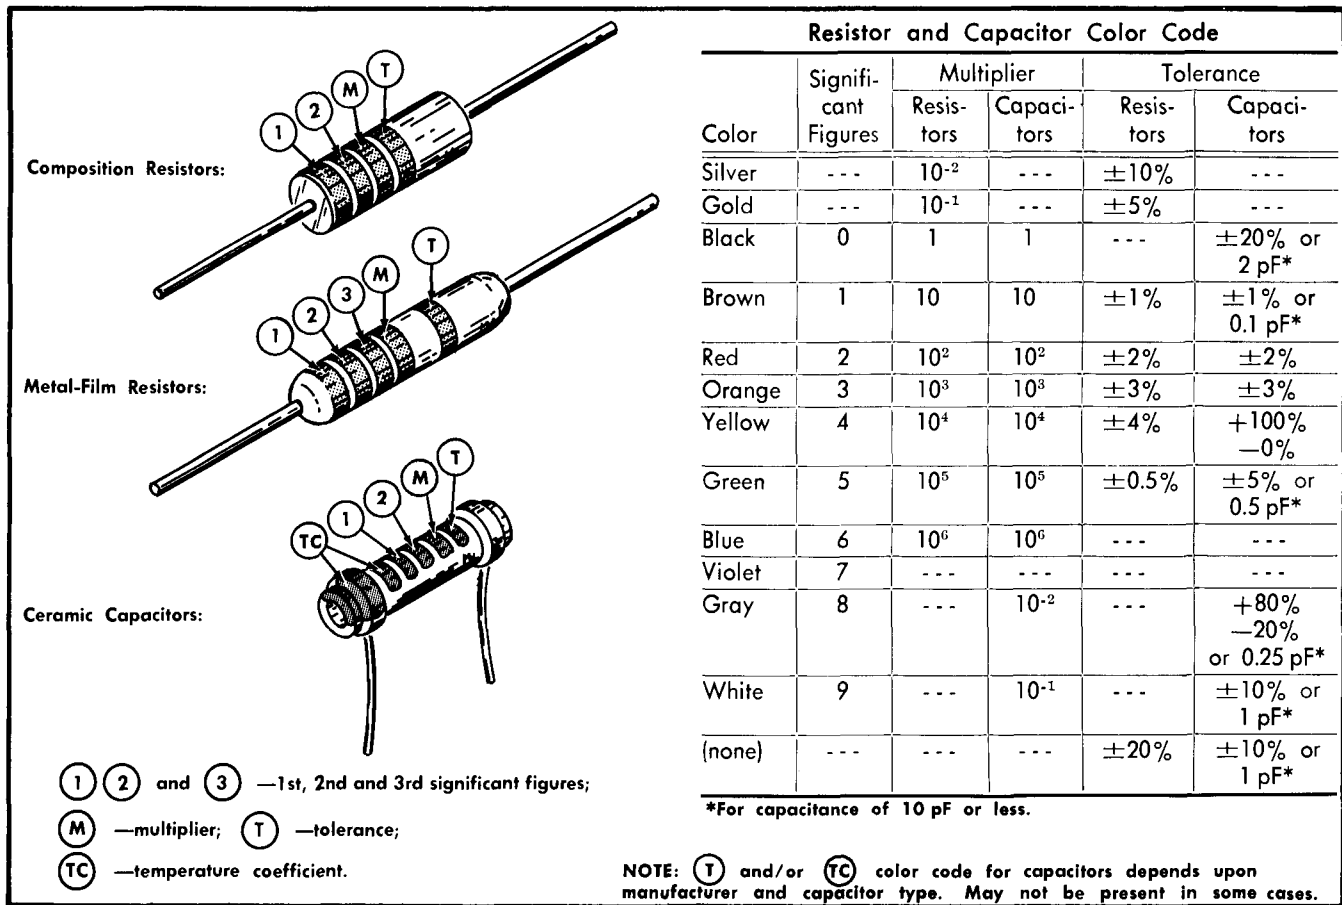

Fig. 5-2. Color-code for resistors and ceramic capacitors.
**Resistor Color Code.** In addition to the brown composition resistors, some metal-film resistors (identifiable by their gray body color) and some wire-wound resistors (usually light blue or gray-green) are used in the Type R116. The resistance value of a wire-wound resistor is printed on the body of the component. The resistance value of a composition resistor or metal-film resistor is color-coded on the component with EIA color-code (some metal-film resistors may have the value printed on the body). The color-code is read starting with the stripe nearest the end of the resistor. Composition resistors have four stripes which consist of two significant figures, a multiplier and a tolerance value (see Fig. 5-2). Metal-film resistors have five stripes consisting of three significant figures, a multiplier and a tolerance value.
ads on the side of the component body. The white ceramic capacitors used in the Type R116 are color coded in picofarads using a modified EIA code (see Fig. 5-2).